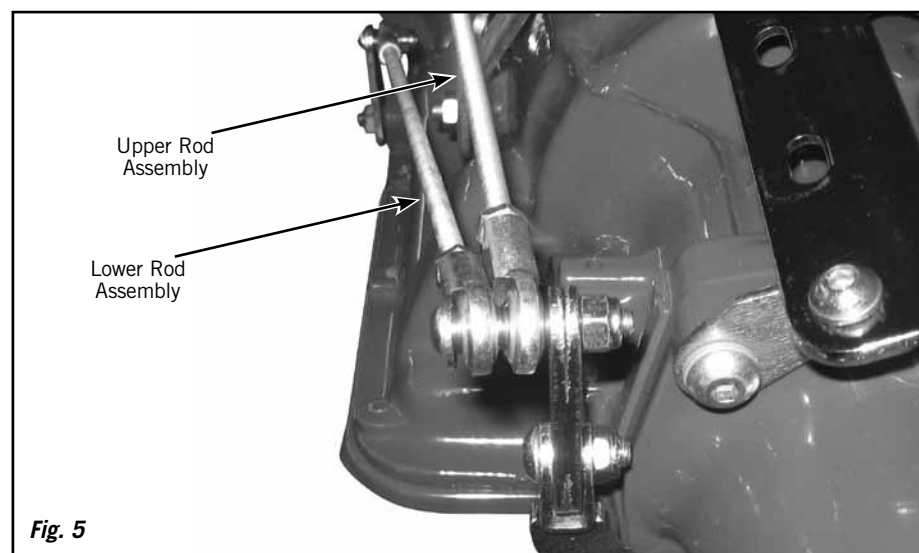

Fig. 5
Step 12: Disconnect the lower rod assembly from the linkage arm. Install both the upper and lower rod assemblies to the outside of the linkage arm (away from the transmission), with the upper rod assembly between the lower rod assembly and the linkage arm. **Fig. 5**